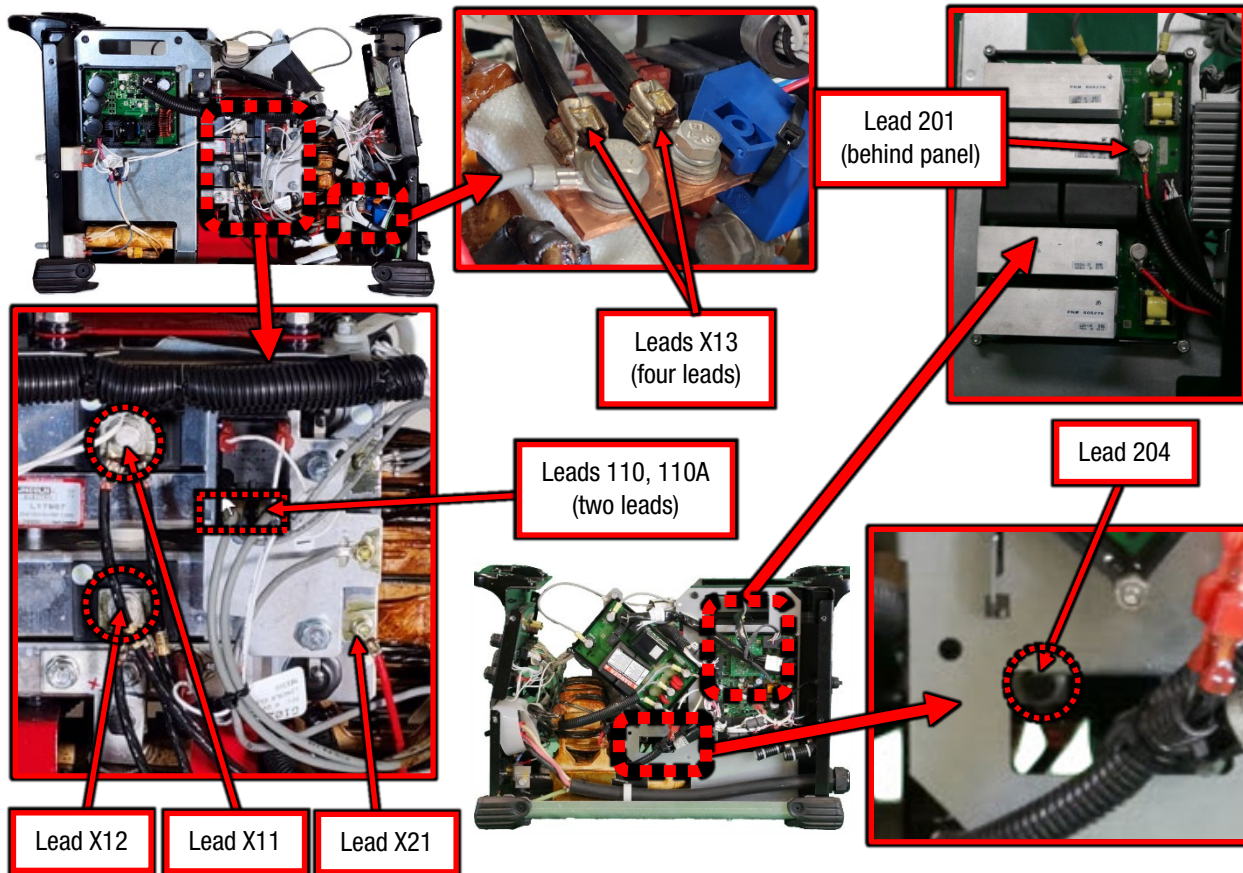

Figure F.2
A.2. Label and disconnect the following connections, refer to Figure F.2.
A.3. Perform the static measurements in Test Table 1, refer to Figure F.2 for test point Locations, set the switch “Condition(s)” as directed in Table 1. NOTE: MEASUREMENTS ARE TAKEN ON THE LEADS NOT TERMINALS.